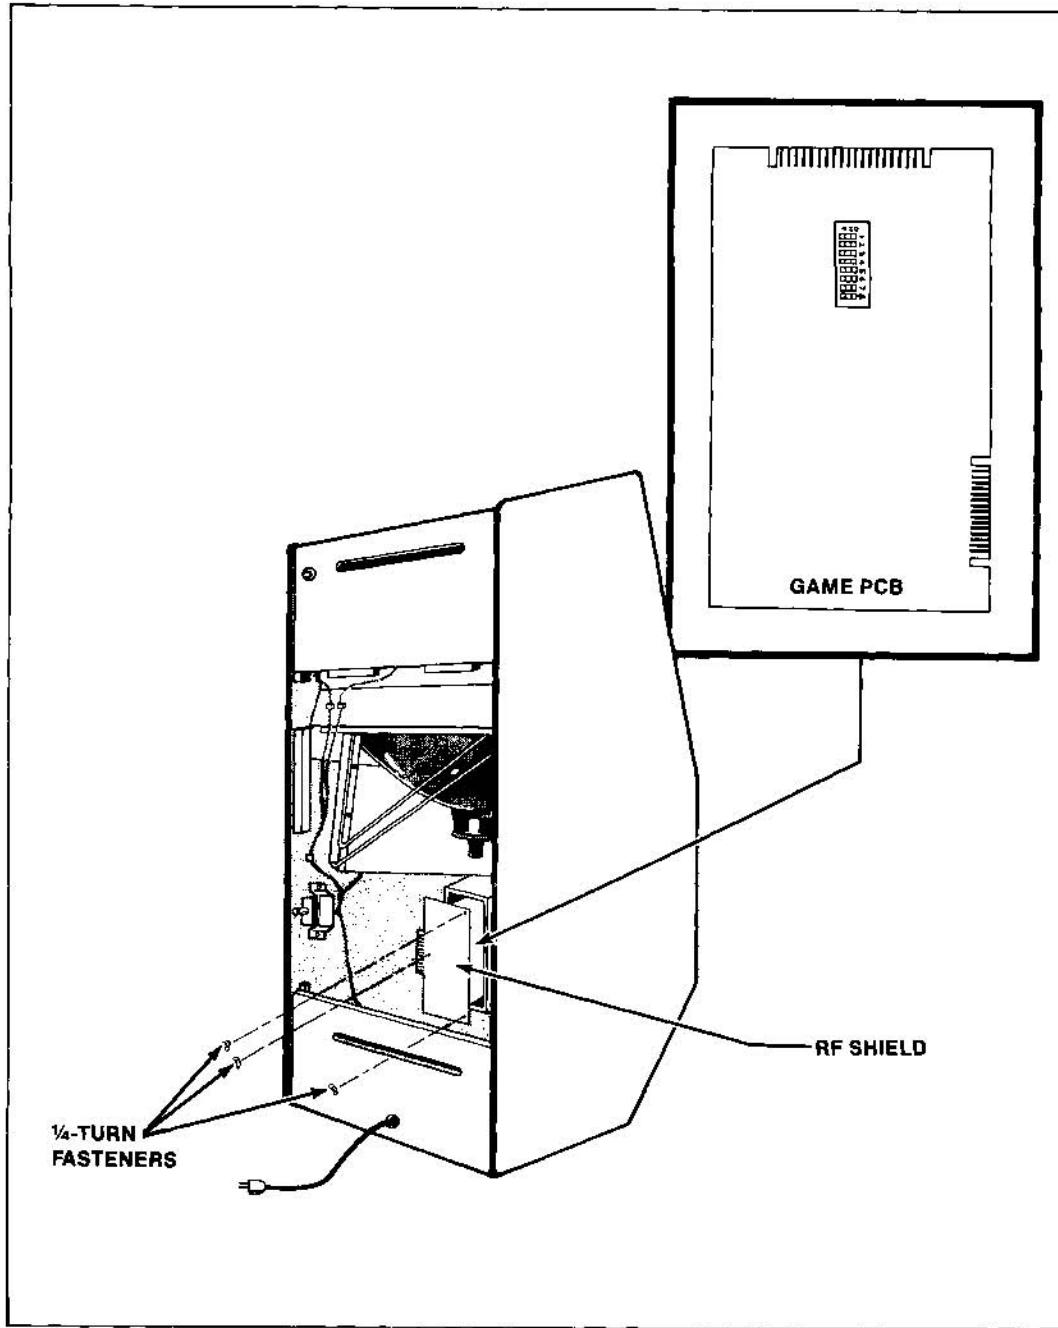

Figure 1-5 Option DIP Switches and Game PCB Location and Removal
2. Locate the radio frequency (RF) shield board assembly immediately inside the game cabinet behind the rear access door (see Figure 1-5). On one end of the assembly is a small PCB with an edge connector coming from the edge of the Super Breakout game PCB. (The RF Shield Assembly is an aluminum box with hundreds of holes.)